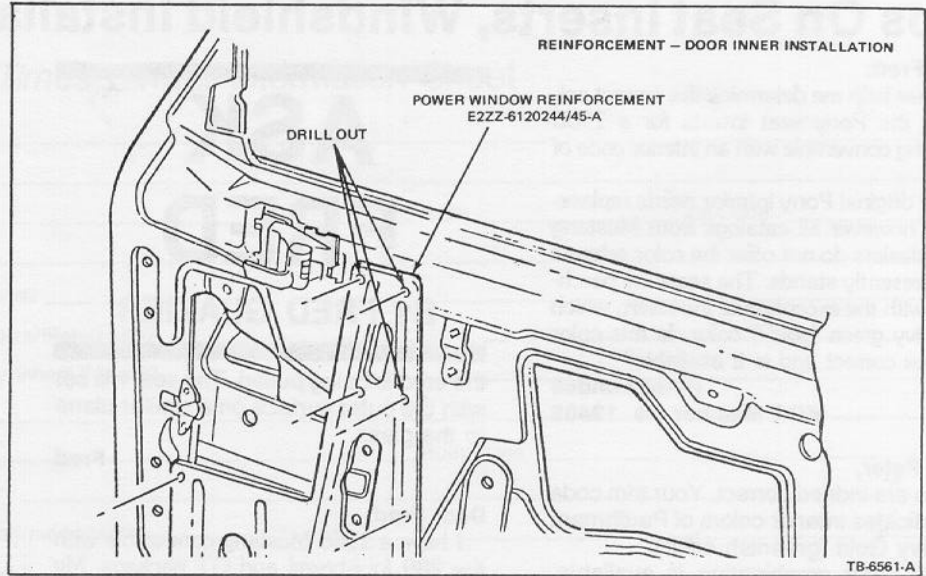

Figure 1 - Article No. 82-15-1
4. If the unit is equipped with power windows, drill out the three top rivets on the door reinforcements. See Figure 1. **Note:** The vertical stringer reinforcements will not be required on the front of units already